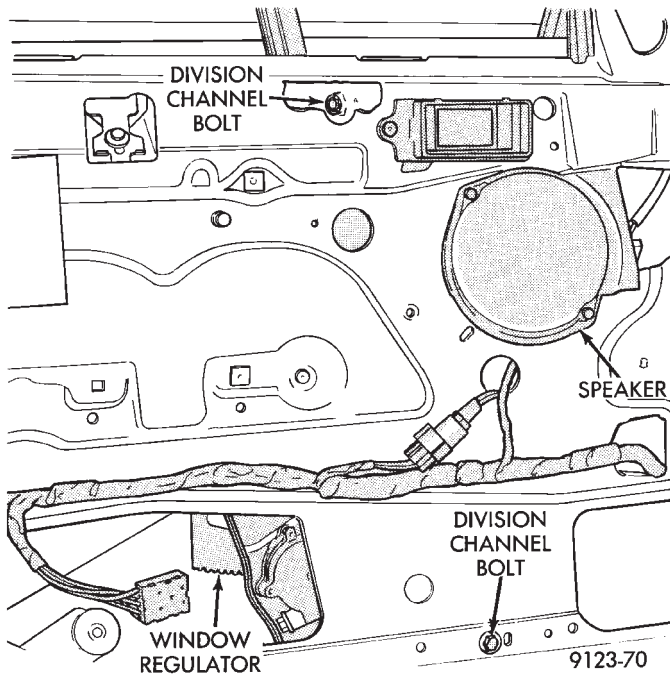
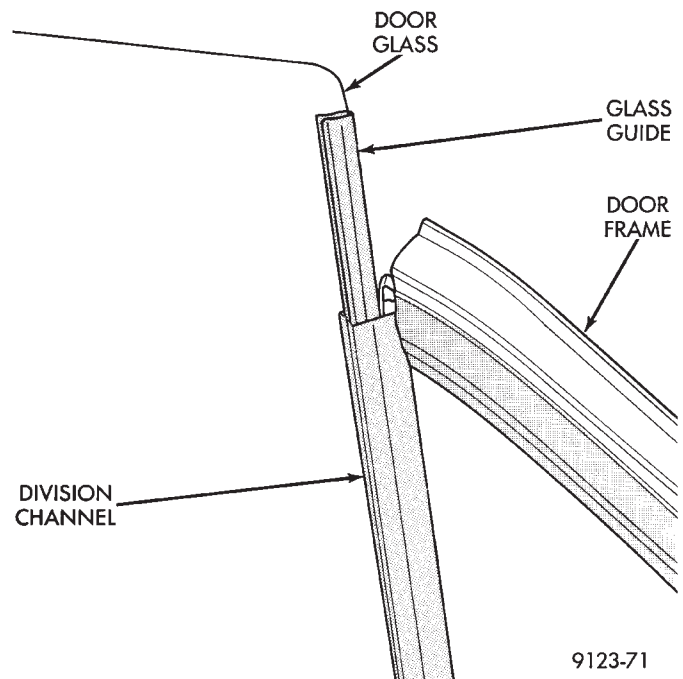

Fig. 20 Division Channel Bolts
Fig. 21 Front Door Glass
- (3) Remove bolts holding division channel to inner door panel (Fig. 20).
- (4) Push door glass forward to disengage window regulator roller from lift channel on glass.
- (5) Lift glass upward from opening at top of door.
- (6) Separate glass from division channel (Fig. 21).